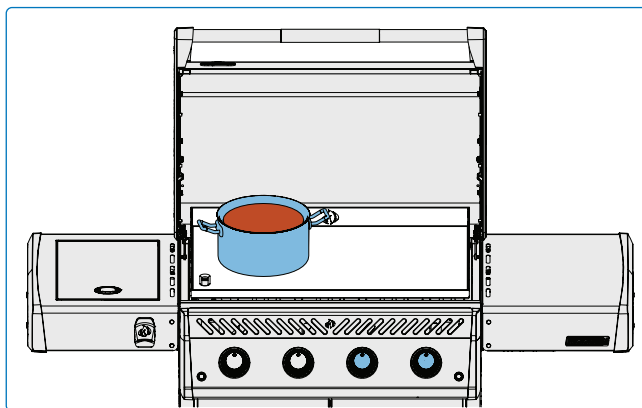

Fig. 11
- Use the griddle plate to melt or warm sauces. Place pots or pans off to one side over low to medium heat. **(Fig. 11)**